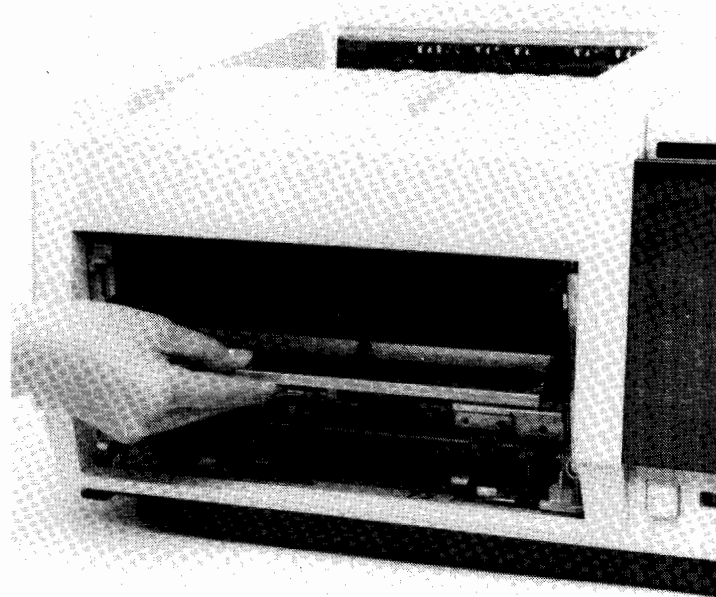

Figure 4-19. Removing Paper Feed Guide Plate
- d. Remove the paper feed guide plate as shown in figure 4-19 and clean it with a dry soft cloth.